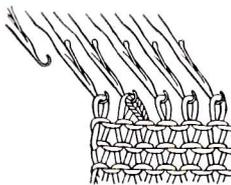

Fig. 59
- b. Use two needles transfer tool in this time, take the end stitch on the one of transfer needles and the two stitches of the 2nd needle on another of transfer needles, transfer them to the neighboring inside needles towards the center of the knitter. (See Fig. 59)